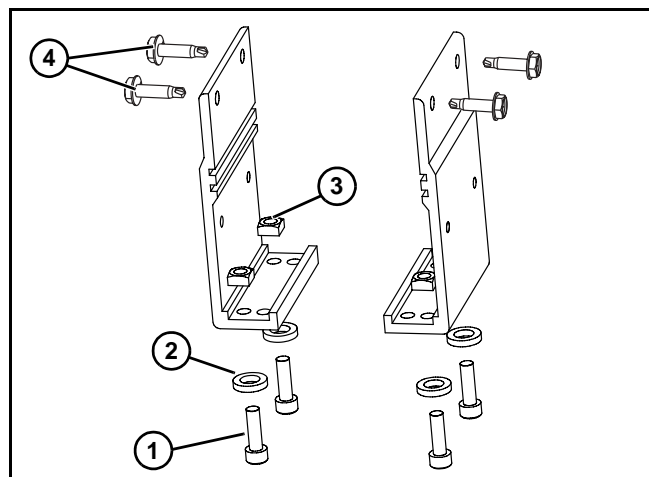

Figure 9
- Locate brackets. Exploded views shown in **Figure 9**.
- Remove screws (**Figure 9, item 1**), washers (**Figure 9, item 2**), nuts (**Figure 9, item 3**) from brackets.
- Locate and retain self-drilling screws (**Figure 9, item 4**).